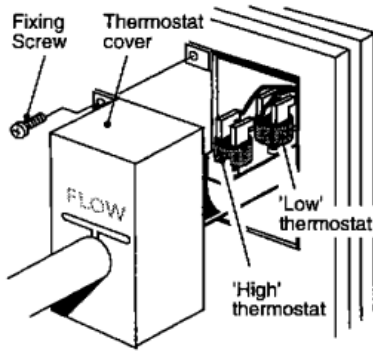

Fig. 20
5.7 To Replace the 'Hi' or 'Lo' Thermostats - See Fig. 20.
- Remove the screw securing the thermostat cover, See Fig. 20 and pull the cover forward.